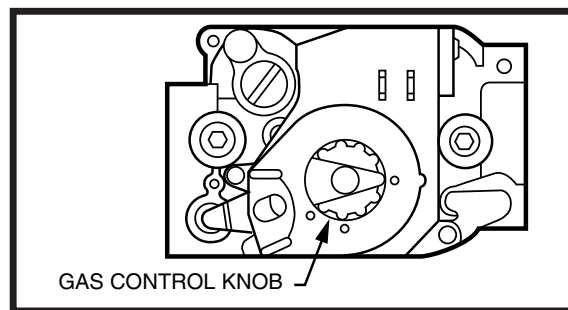
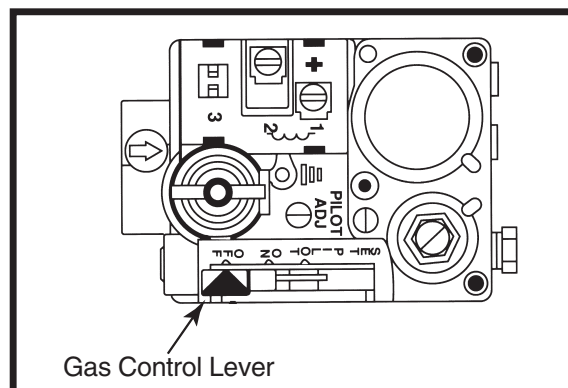

Figure 32. Direct Ignition Gas Valve - Honeywell
Figure 33. Direct Ignition Gas Valve - Robertshaw
- Honeywell:** push in and turn the gas control knob clockwise to **OFF** (Figure 32)
- Robertshaw:** push the gas control lever to the **OFF** position (Figure 33). **Do not force!**
- Wait ten (10) minutes to clear out any gas. If you smell gas, **STOP!** and follow the Safety Information on page 19. If you do not smell gas, proceed to next step 5.
- Honeywell:** push in and turn gas control knob counter-clockwise to **ON** (Figure 32).
- Robertshaw:** push the gas control lever to the **ON** position (Figure 33). **Do not force!**
- Honeywell (Figure 32): Turn gas control knob clockwise to **OFF**, Robertshaw (Figure 33): Push the gas control lever to **OFF**.
- Honeywell: push in the gas control knob and turn clockwise to **OFF** (Figure 32).
- Robertshaw: push the gas control lever to **OFF** (Figure 33). The lever cannot be placed in the off position unless it is pushed in slightly. **DO NOT FORCE!**
- Honeywell: push in and turn the gas control knob clockwise to the **OFF** position (Figure 32).
- Robertshaw - push the gas control lever to the **OFF** position (Figure 33).